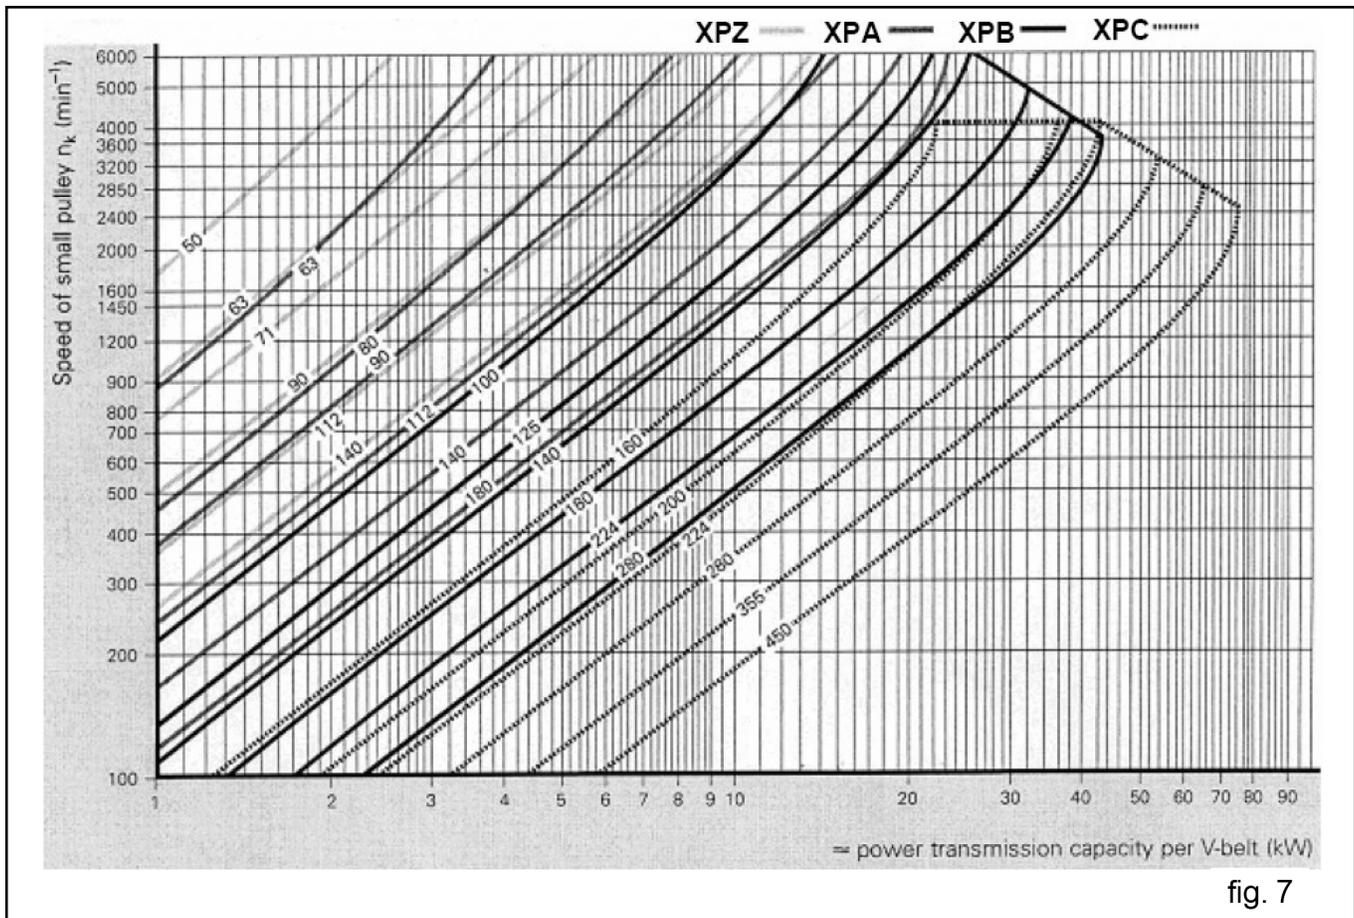
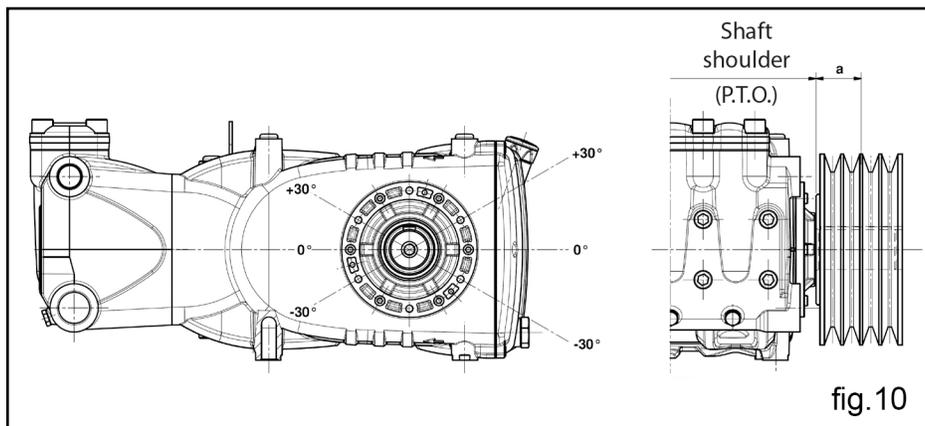

fig. 7
fig. 10
On the suction line 1 filter must be installed as indicated in fig. 7 and fig. 7/a.
The pump can be controlled by a V-belt system. For this pump model, we recommend use of 4 XPB belts (16.5 x 13 serrated). Use an XPC profile only for long durations. Both the characteristics and transmissible power of each belt can be verified in the diagram in fig. 7, in relation to the number of rpm normally declared by the manufacturer. Minimum duct pulley diameter (on pump shaft): ≥ 9.84 in (250 mm). The radial load on the shaft must not exceed 1686 Lbs (7500 N) (value necessary for layout definition). The transmission is considered adequate if the load is applied to a maximum distance $a=1.57$ in (40 mm) from the shaft shoulder (PTO) as shown in fig. 10.
B) Use high performance belts - for example **XPB** instead of **SPB** - as a lower quantity of belts for the same transmitted power may be necessary and a consequent shorter resulting distance compared to the shaft shoulder (PTO) "a" of fig. 10.